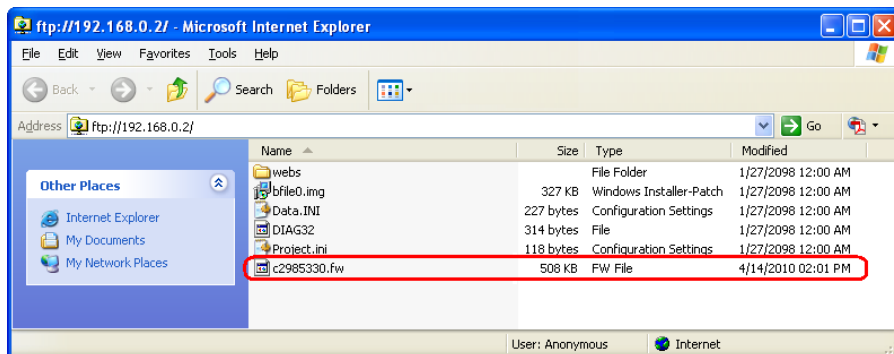

Figure 11 File structure on the parameterization memory – file "c2985330.fw"
- Copy the firmware file into the root directory (in the example: "c2985330.fw" for the Inline controller of the 100 controller class used, see Figure 11).